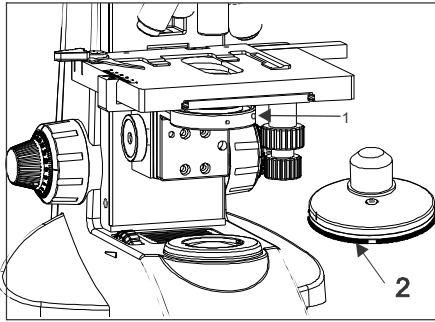

Fig. 5
1. Remove the condenser from its position by loosening the screw (1) with allen key on right side of the condenser bracket as shown in figure 5.
3. Secure it with screw (1). The phase turret can be adjusted at any desired phase annulus (10x, 20x, 40x & 100x) by turning the thumbwheel (2) to the desired position. There is also an '0' setting on the thumbwheel for bright field application